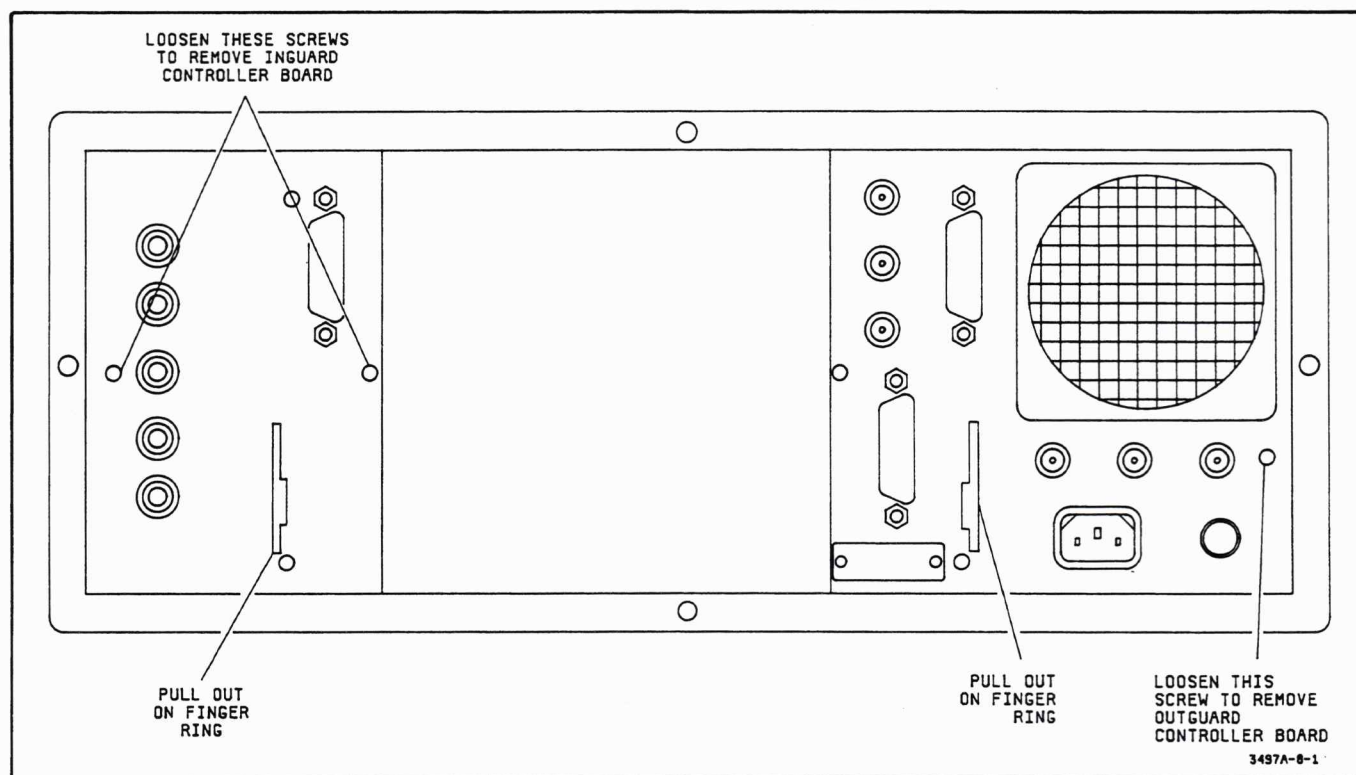

Figure 8-1. Outguard and Inguard Boards Mounting Screws and Finger Rings
c. Refer to Figure 8-1. Note that the outguard logic board and the inguard controller board are held in place by one and two mounting screws, respectively. Determine which board is to be removed and locate the appropriate screws. Loosen the screws, but do not remove them. They are held in place by a rubber grommet.
d. Dependent on which board (inguard or outguard) is to be removed, locate the appropriate built-in finger ring, as shown in Figure 8-1. Pull on the ring to remove the board from the 3497A chassis.
d. Locate the appropriate mounting screws on the rear panel, shown in Figure 8-1, and tighten the screws.